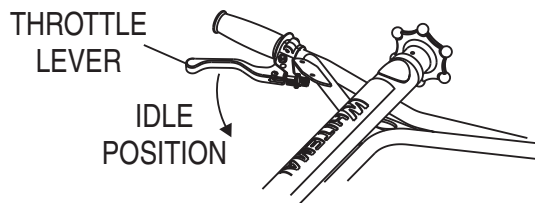

Figure 17. Throttle Lever (Idle Position)
2. Place the trowel's **throttle lever** (Figure 17) to the "IDLE" position.